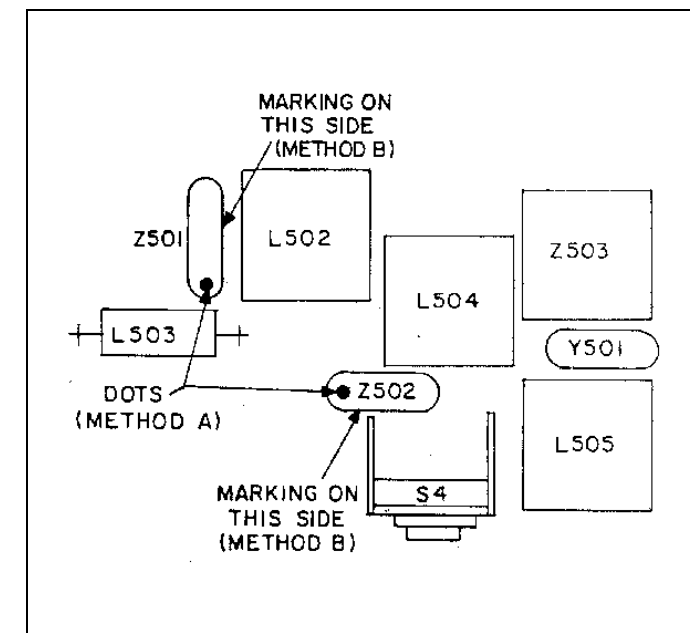

Figure 10 - Alternate IF Option
- a. If there is a dot on top of each crystal filter can, then use these dots to orient filters Z501 and Z502(See Figure 10)
- b. If either crystal filter can does not have a dot on top, then the side of the can which has the part number printing will be used for orientation. Orient the marking side of Z502 toward L502 and the marking side of Z502 toward PTT switch S4 (see Figure 10).